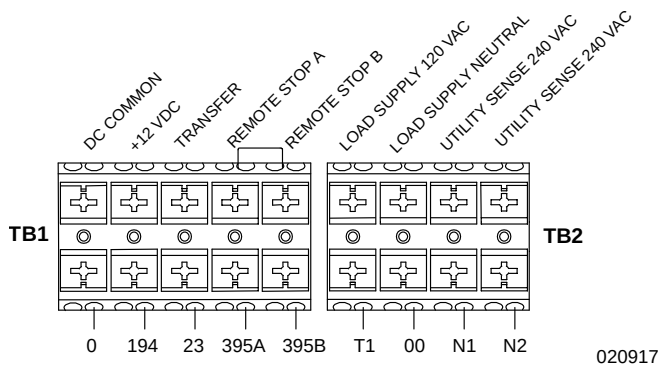

Figure 10-2. Customer Connection Block
3. See Figure 10-2. At the customer connection block, locate the T1 and 00 terminal connections at the WAGO block.